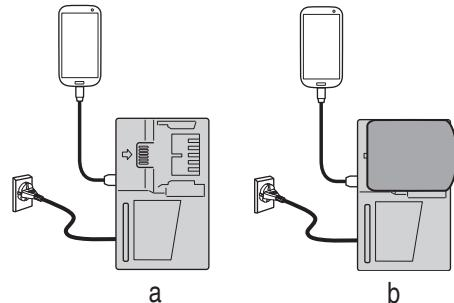

Fig. 7
- Charging a USB device from a electrical outlet. (Fig. 7-a)
- Charging a USB device and battery from a electrical outlet. (Fig. 7-b)